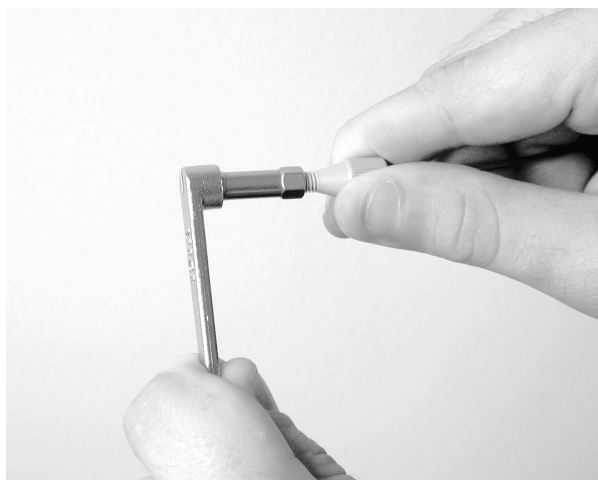

FIGURE G-2 Attaching a PEEK Sleeve connector to a NANO column
- d) Manually turn the nut into the union until it is finger tight. Carefully turn the nut 1/4 turn (90°) past the point where the ferrule starts to grab the sleeve (FIGURE G-2). Use a 1/4" wrench to retain the union.
- g) Manually turn the nut into the union until it is finger tight. Carefully turn the nut 1/4 turn (90°) past the point where the pre-assembled sleeve first start to grab the tubing (FIGURE G-2). Use a 1/4" wrench to retain the union.